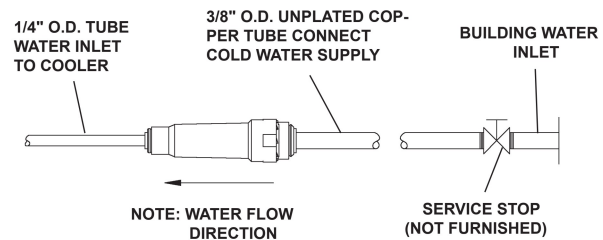

FIG. 5
6. **Connect** the fountain to the supply line with a shut off valve and install a 3/8" (10mm) unplated copper water line between the valve and strainer. Push the tubes straight into the fittings until they reach a positive stop, approximately 3/4". See Figs. 5 and 6.
11. **Stream** height is factory set at 35 PSI. If supply pressure varies greatly from this, turn adjustment screw on regulator (item 1). Clockwise adjustment will raise the stream height and counter-clockwise adjustment will lower stream height. For best adjustment, stream should hit basin approximately 6-1/2" from the bubbler.